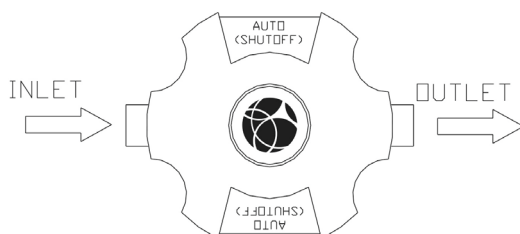

FIGURE 2
2. To operate with process gas, turn the handle so that the cutouts line up with AUTO. In this position, the valve will automatically shut off when the flow rate exceeds the rating of the valve. See Figure 2.